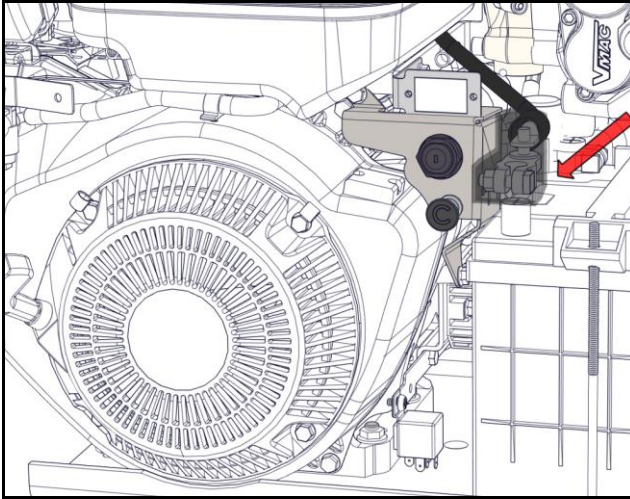

Figure 32 – Negative battery
- 1) Disconnect the negative battery terminal (Figure 32).